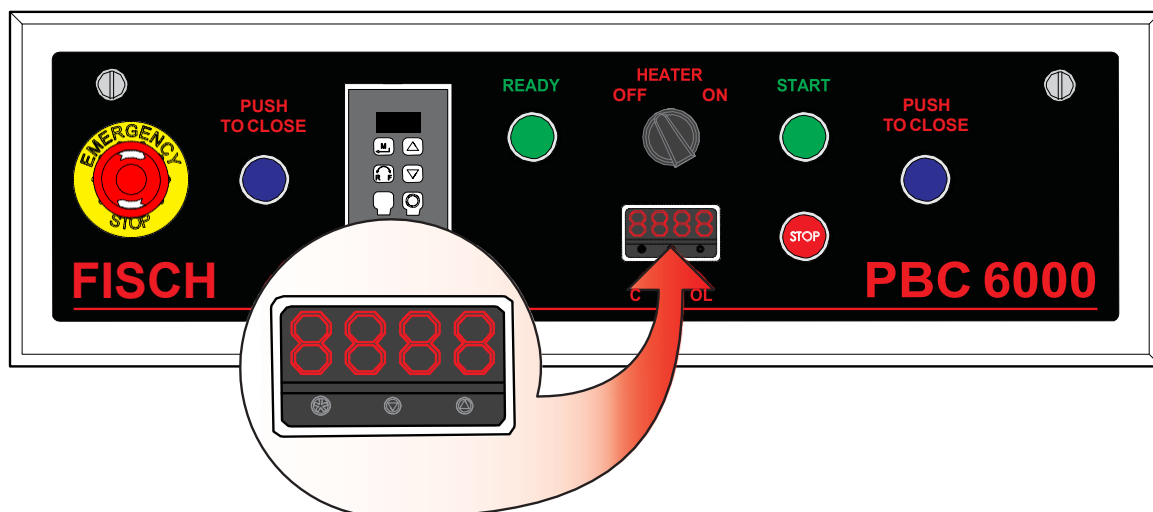

Figure 5-19: Temperature Controller
Within the heater manifold is a thermocouple, monitored by the heat controller. The controller on the front electrical control panel uses the information from the thermocouple to monitor and adjust the heater. To adjust the temperature to the heater, use the controller on the electrical control panel (see Figure 5-19: Temperature Controller).
1. To display the set point, push and hold in the \* button. The display (see Figure 5-19: Temperature Controller) will alternate between the set point temperature and the temperature scale (°C for Celsius and °F for Fahrenheit).